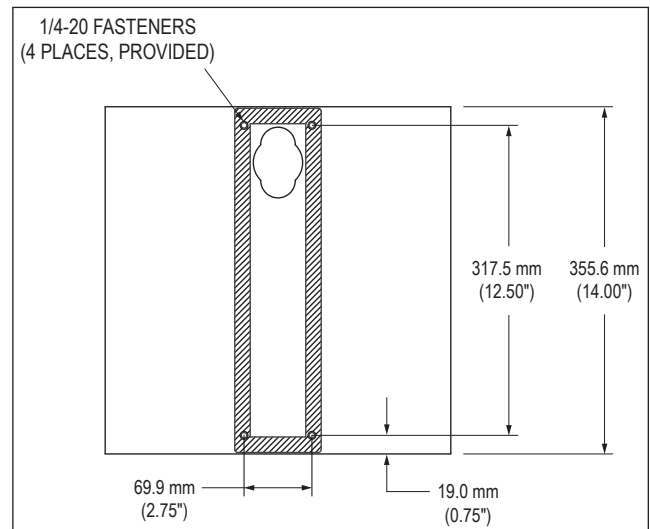

FIGURE 1 – REAR VIEW SHOWING MOUNTING PATTERN
1. Refer to Figure 1. Mount the enclosure to HIS pedestal using the provided four 1/4-20 bolts. Pre-tapped holes are provided on specific HIS pedestal models. If you will not be using an HIS pedestal, mount the enclosure to a smooth wall surface using the hole pattern shown in Figure 1, or use HIS part number WB-ENCL1-xxx (not included). If enclosure wiring is not going through the rear hole already provided, punch conduit holes as required.